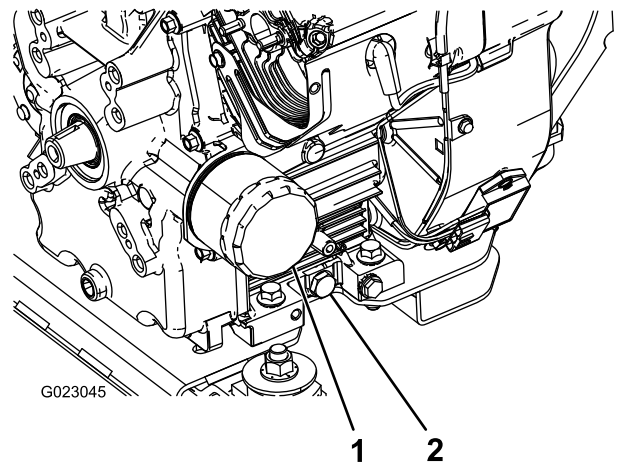

Figure 39
5. Remove the drain plug (Figure 39).
8. Slowly pour approximately 80% of the specified amount of oil into the oil filler tube (Figure 39).